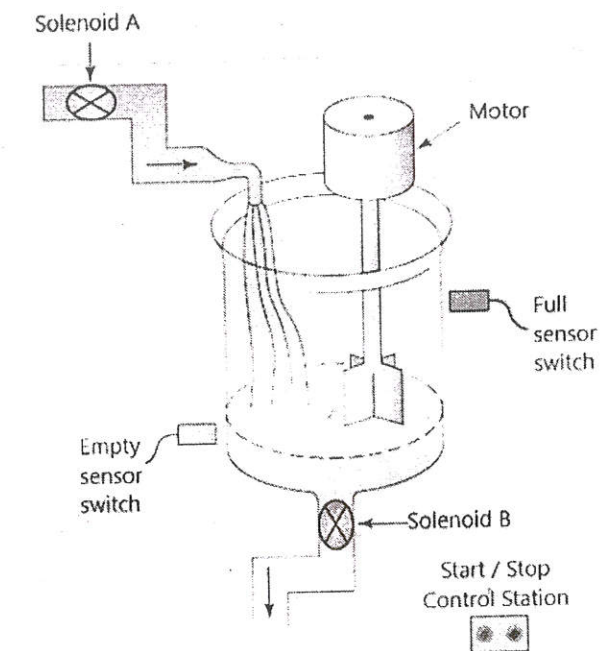

Figure. 16 (a)
16. (a) Write a PLC program to implement the process illustrated in Figure 16. (a) The sequence of operation is to be as follows:
- (b) Write a program to implement the process illustrated in Figure 16 (b). A company that makes electronic assembly kits needs a counter to count and control the number of resistors placed into each kit. The controller